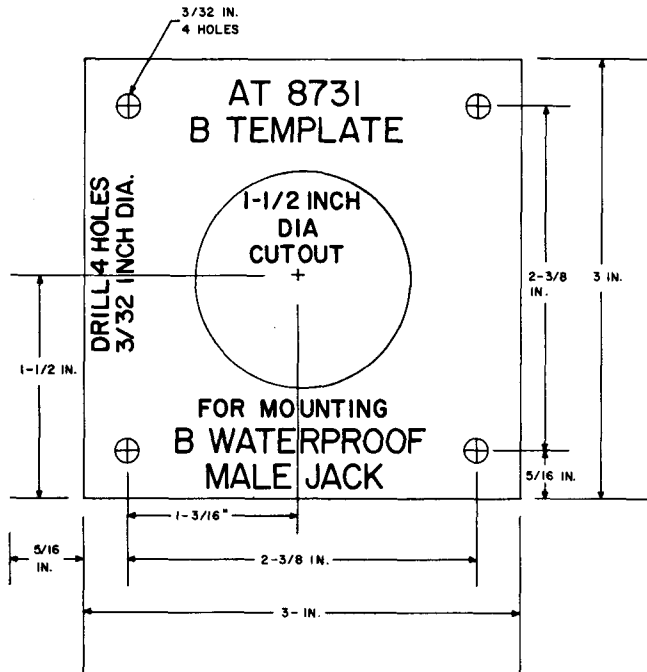

Fig. 14—B Template
- Template, B (for use on boat, Fig. 14)
2.09 The B template (Fig. 14) is used on the boat to locate the pilot holes for mounting screws and clearance hole for jack body for the B waterproof male jack. It is printed on index card stock and is packed separately from the jack so that mounting holes may be prepared prior to jack installation.
- One B template (for cutting mounting holes for jack on boat, Fig. 14)